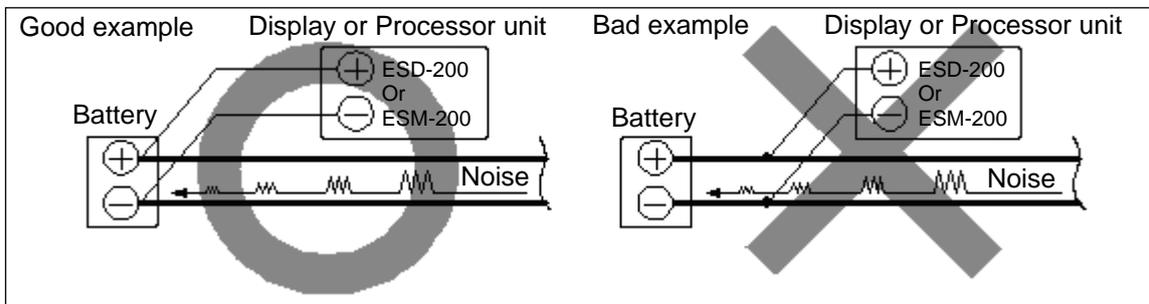

Fig. 1.1 CVS-FX2/FX2BB Connection of Power line
- (3) If you connect the power cable directly to the battery, interference from the other electronic equipment is expected to be less. (See Fig. 1.1)